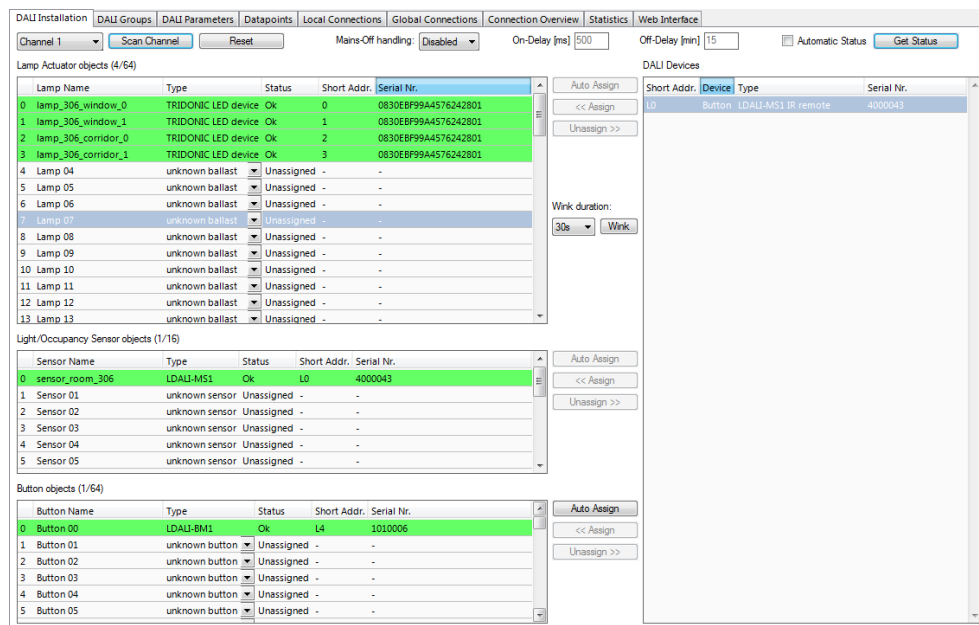

Figure 36: LINX Configurator software, After Configuration Download.
- After the download is complete, go back to the DALI Installation tab and press the **Get Status** button. Now the assigned DALI devices are displayed on a green background (see Figure 36). The green background color indicates that the communication with the device is OK. If there is a communication error, the device will be displayed with a red background color.